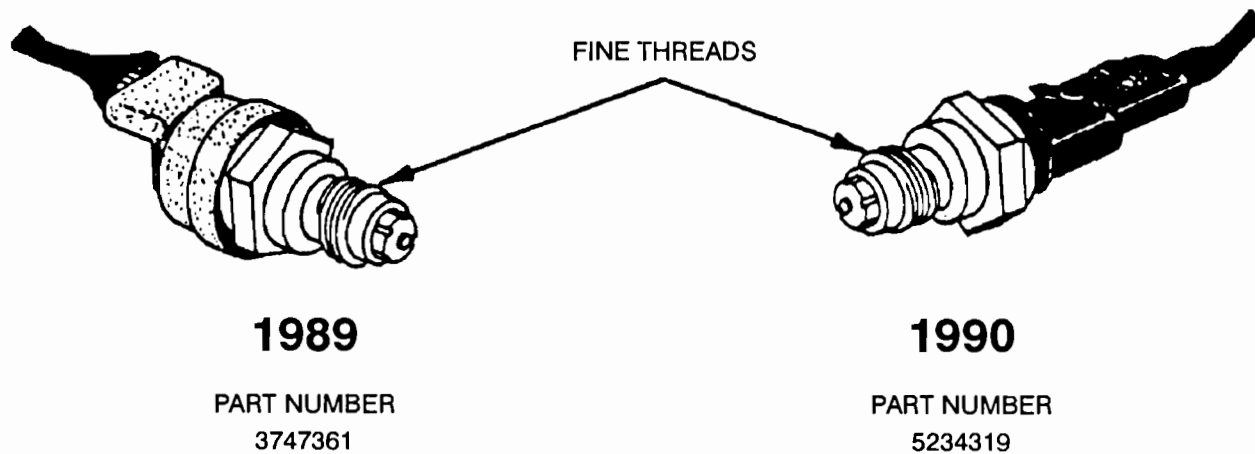

Figure 44
- (2) **NEUTRAL SAFETY SWITCH AND CONNECTORS** - The Neutral safety Switch and its wiring harness connector have changed for 1990, and can be identified visually (See Figure 44). These Neutral Safety Switches WILL NOT interchange with one another.